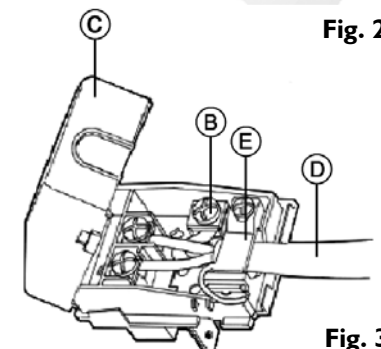

Fig. 3
- Insert the cable in the cable (Fig. 3) clamp and connect the wires to the terminal board.